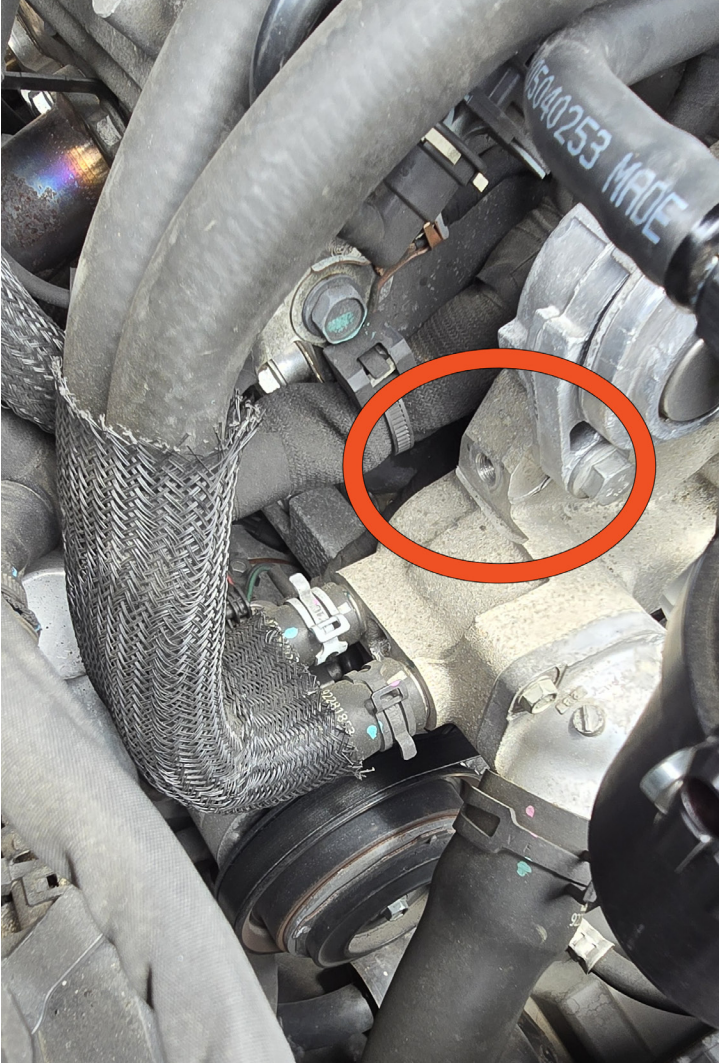

Figure 3 - Bracket Mounting Hole on Water Pump
3. Find the water pump mounting hole on the passenger side of the water pump, shown in Figure 3.